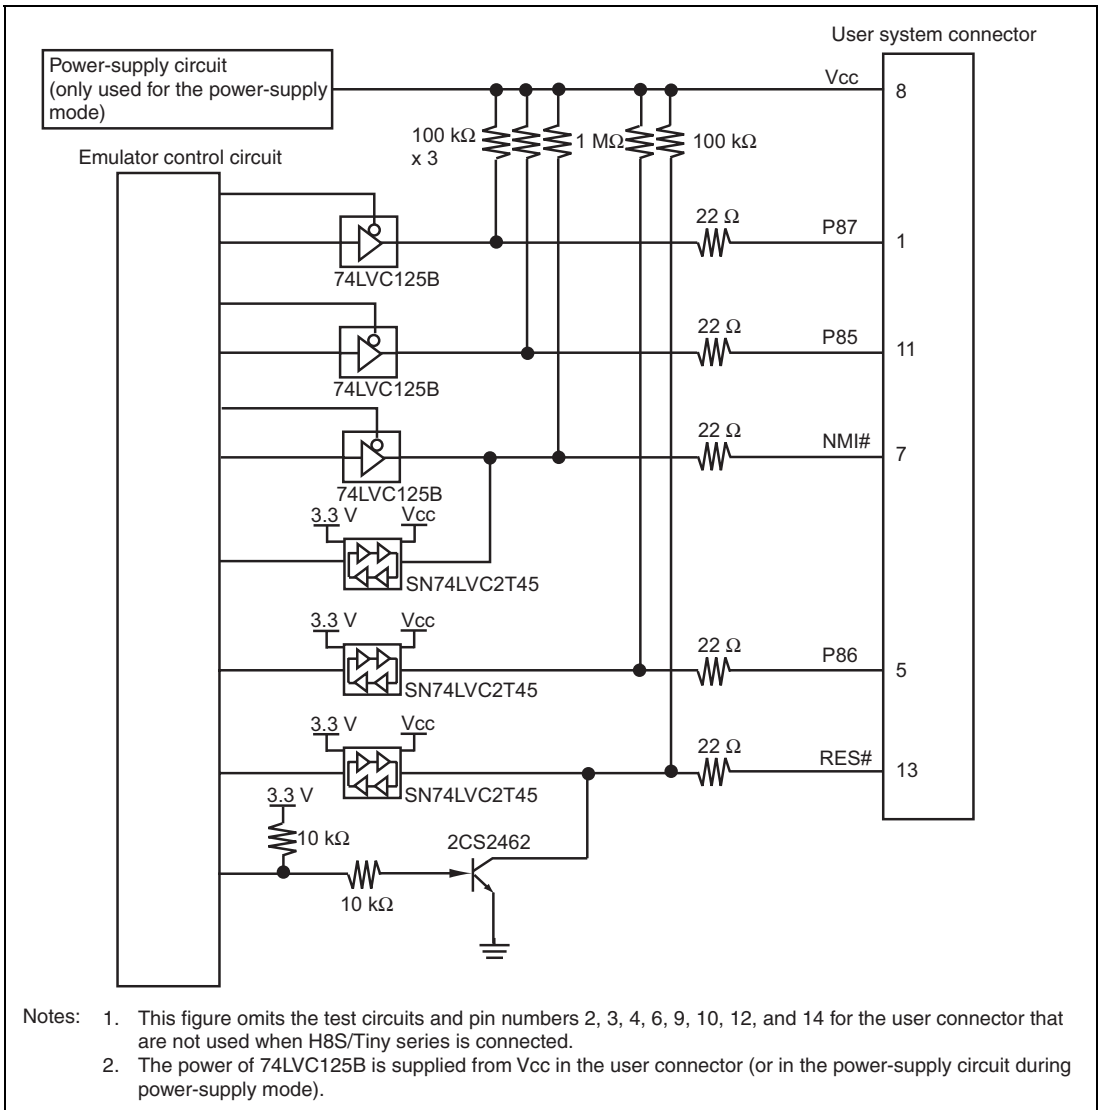

Figure 4.5 Interface Circuit in the E8a Emulator (Reference)
8. Figure 4.5 shows the interface circuit in the E8a emulator. Use this figure as a reference when determining the pull-up resistance value.